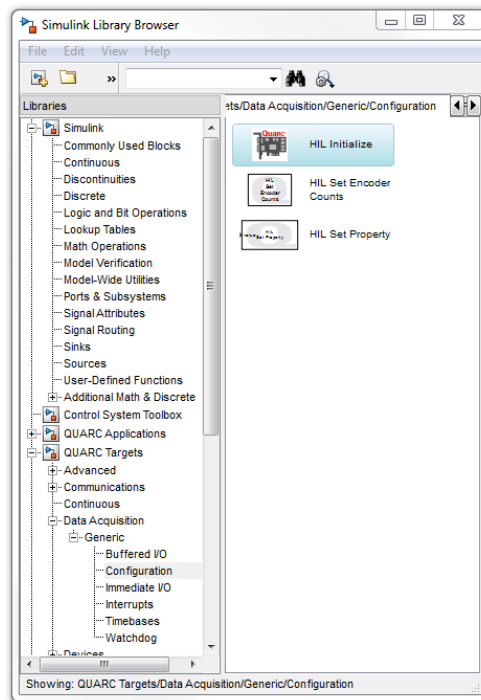

Figure 1.4: QUARC Targets in Simulink® Library Browser
5. Expand the **QUARC Targets** item and go to the Data Acquisition | Generic | Configuration folder, as shown in Figure 1.4.